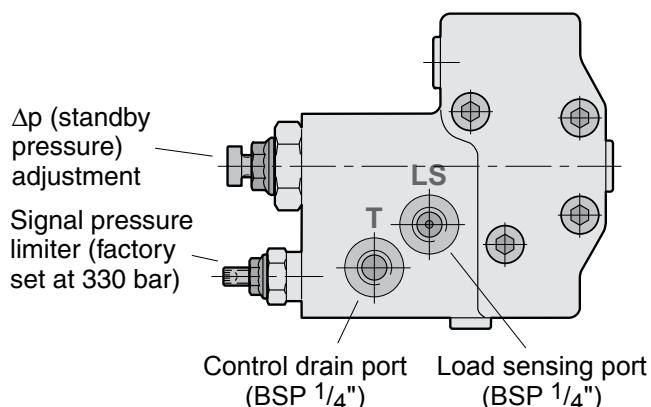

Fig. 8. LS control adjustments.
- The signal pressure relief valve is factory set at 330 bar (fig. 8).